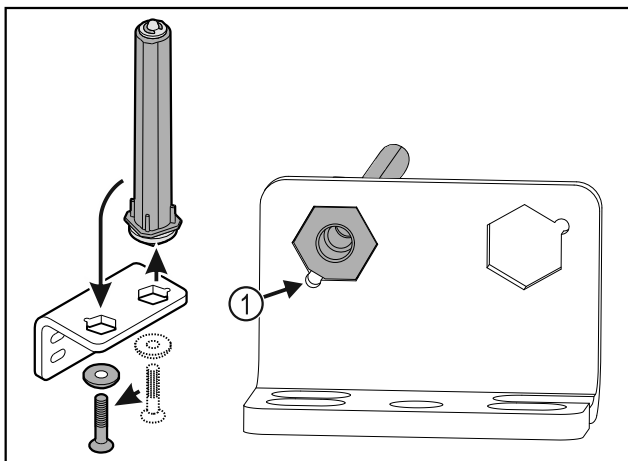

Fig. 32
- ▶ Make sure the pin chamfer *Fig. 32 (1)* faces the round hole when you put it in.